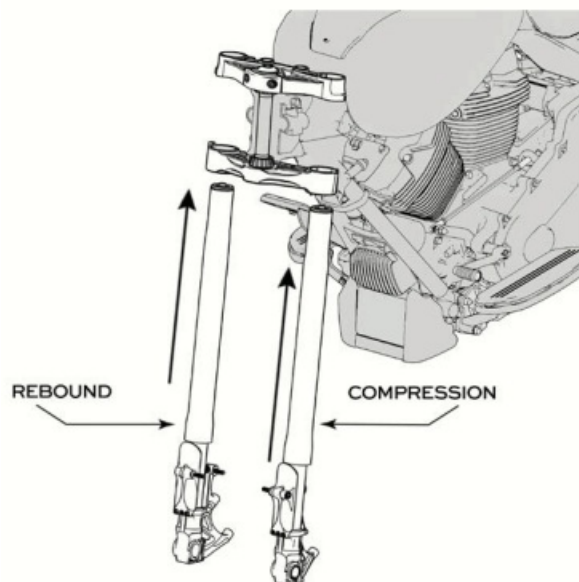

Fig. 10
2. Install each fork leg into trees. (See fig. 10) Ensure pinch bolts are loose. Starting with one side of the triple tree using small flat blade screwdrivers or shims, expand both top and bottom fork clamp pinch bolts slightly. This makes sliding the fork into the triple trees easier while avoiding damaging the fork legs. Repeat the process with the opposite side.